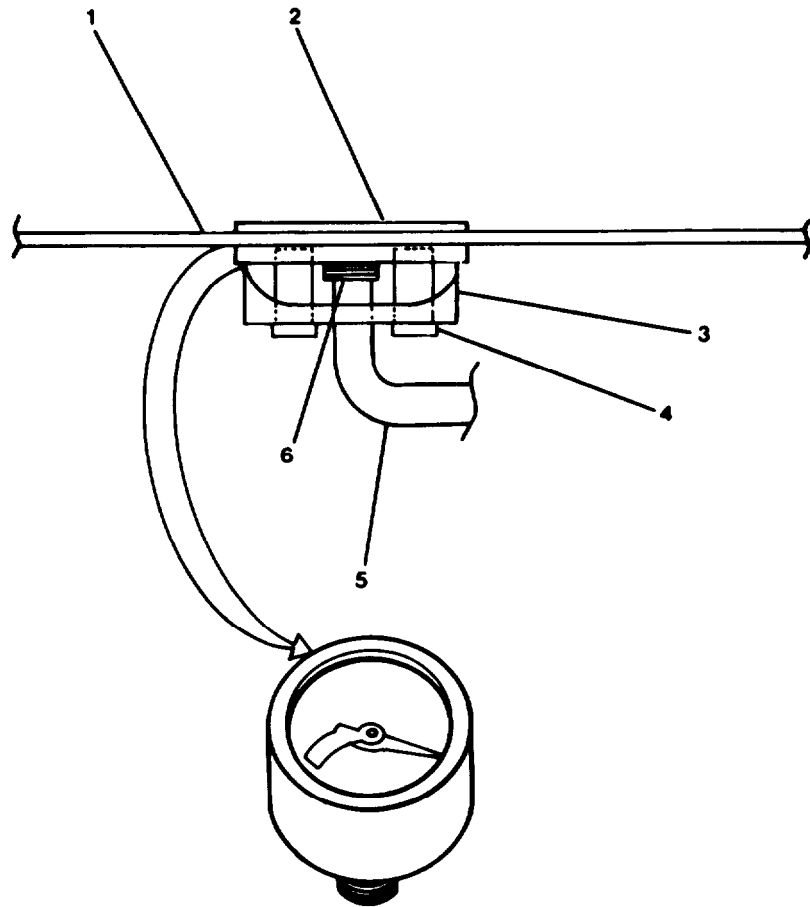
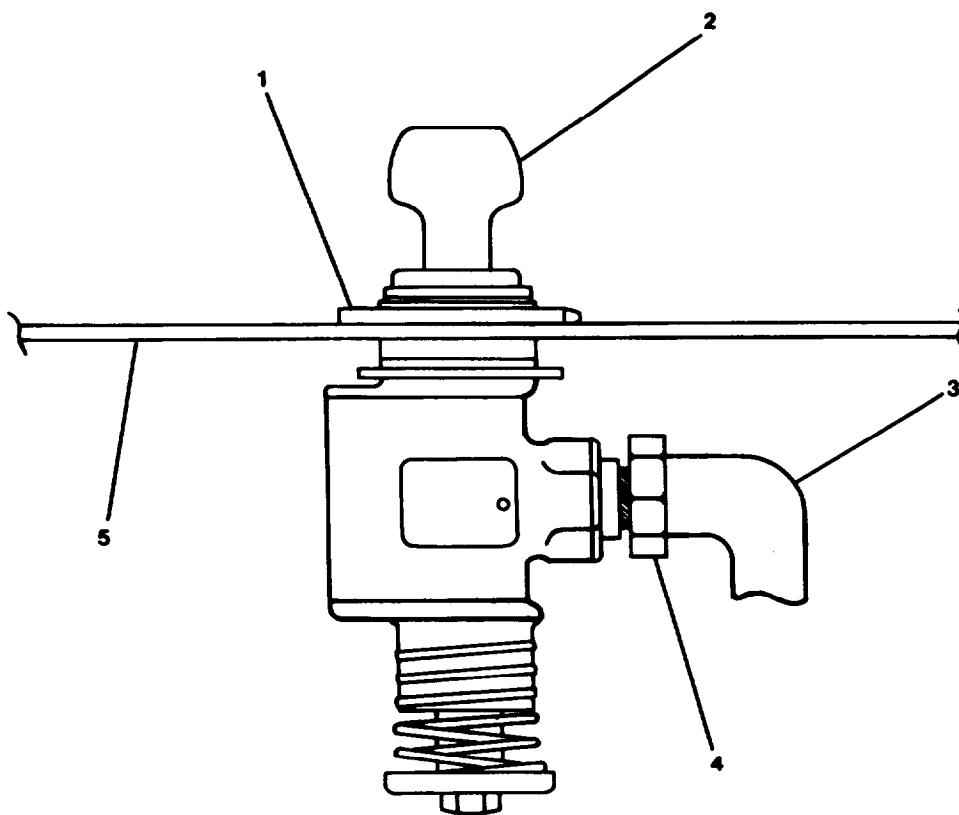

FIGURE 2-94. Venturi Meter, Removal.
FIGURE 2-95. Linear Directional Valve. Removal.
- (1) The 3-position gear actuator cylinder should move freely without binding or twisting. The same is true for the governor actuator. Check all linkages and adjustments for correct alignment.
- (2) Check all pivot points for freedom of movement, excessive wear and corrosion.
- (3) Check valve indicator pins or stem positions to be sure all are in proper sequence. (Refer to Table 2-3).
- (4) Recheck all operating pressures for normal settings. (Refer to TM 55-1905-223-10, Operator's Manual.)
- (5) Check all system components for cleanliness. Care must be exercised to insure that excessive dust, dirt, and foreign objects are not allowed to build up around and/or on any of the system components.
- (6) Turn the system air off at the air prep unit shutoff valve. After all system air has bled out, remove the filter unit bowl, drain it, wipe it clean, inspect the filter element, and reinstall the bowl. Be sure the auto drain float (if used) is positioned properly and the lock ring is in the locked position. Double check the lock ring, then turn the air on slowly to prevent shock to the system.
- a. Remove Venturi Meter. (FIGURE 2-94)
- (1) Open access panel to pilothouse control console.
- (2) Inside pilothouse control console, remove two hex head capscrews (4), slide bracket (3) down on tube (5).
- (3) Disconnect tube (5) at connection (6).
- (4) Remove venturi meter (2) from control console (1).
- b. Remove Linear Directional Valve. (FIGURE 2-95)
Repair at this level of maintenance is by replacement of venturi meter (2, FIGURE 2-94) and linear directional valve (2, FIGURE 2-95).
- a. Replace Venturi Meter. (FIGURE 2-94)
- (1) Seat Venturi meter (2) in pilothouse control console (1).
- (2) Apply teflon tape to connection (6).
- (3) Connect tube (5) at connection (6).
- (4) Slide bracket (3) up tube (5) and secure to control console with two hex head capscrews (4).
- b. Replace Linear Directional Valve. (FIGURE 2-95)